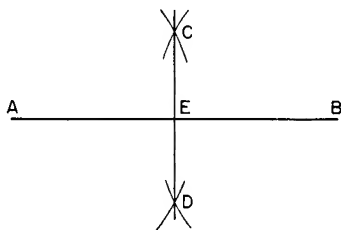

Fig. 3.1
- (1) Draw any two chords AB and BC. **NOTE:** Greater accuracy is obtained if the chords are approximately at right-angles.
- (2) Bisect each chord (see Fig. 3.1).
- (3) Produce the bisectors to meet at O. O is the required centre of the circle.